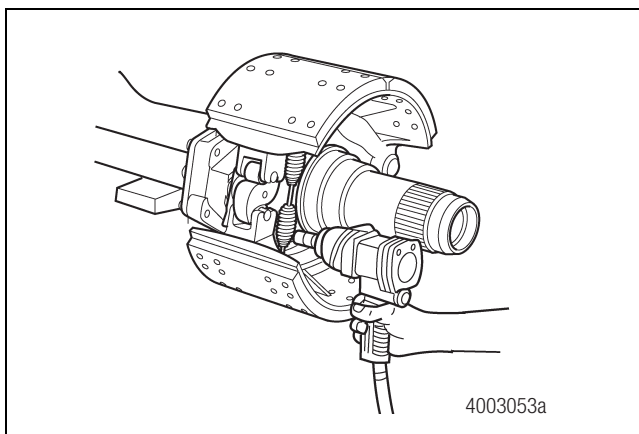

Figure 5.17
6. Install and tighten the brake spider-to-housing bolts according to their length. You must tighten all brake spider-to-housing bolts to the correct specification. Figure 5.17.